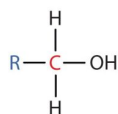

Figure 23.1e. Structure of primary (1°) alcohol (credit: Intro Chem: GOB \(V. 1.0\), CC BY-NC-SA 3.0).
- A **primary (1°) alcohol** is one in which the carbon atom (in red) with the OH group is attached to *one* other carbon atom (in blue) (Figure 23.1e.). Its general formula is RCH_2OH .